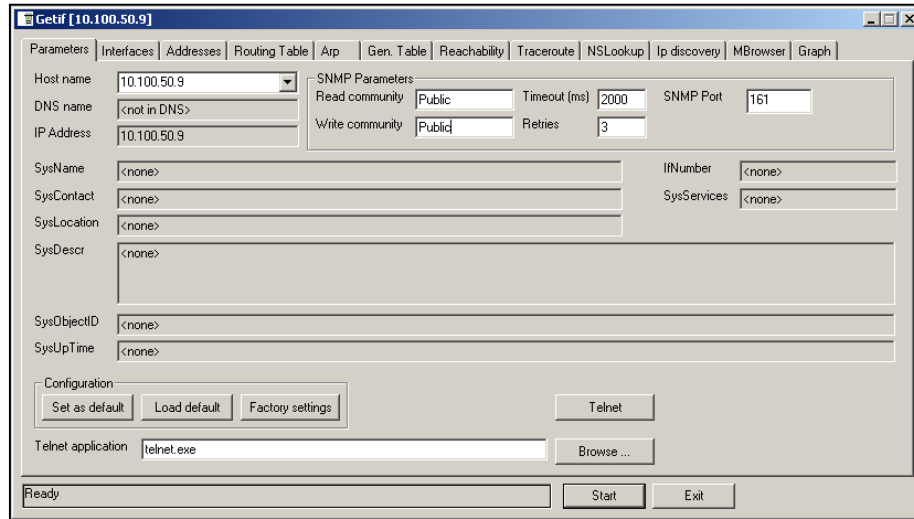

Figure 5-12: GetIf Application Parameters Tab
3. Select the unit IP address and community strings in the relevant text boxes on the Parameters tab (see **Figure 5-12**) and then click the Start button.